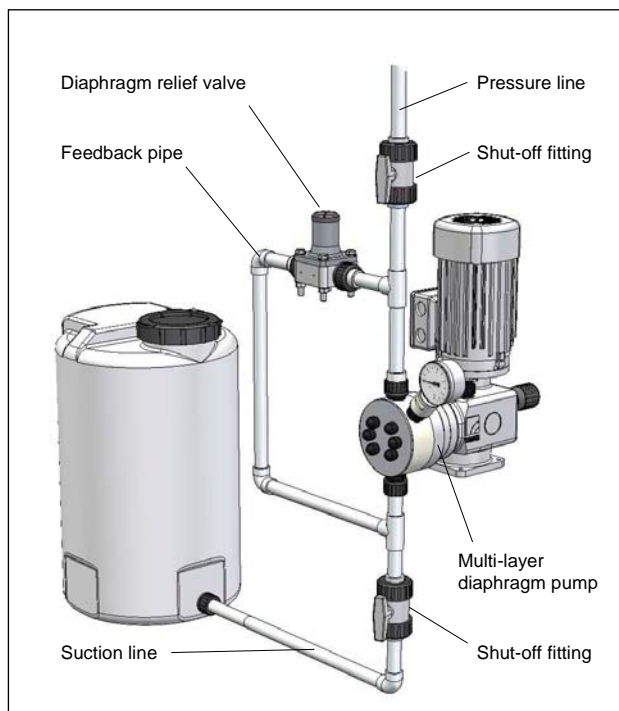

Fig. 21 Installation with diaphragm relief valve (into suction line)
- or connect the overflow line directly to the pump suction line, but only if there is no check valve inside the suction line (e.g. foot valve of a suction lance) (see Fig. 21).